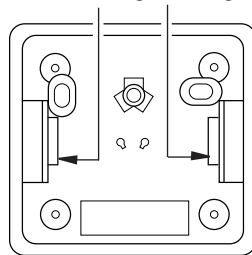

Figure 20 - Back View of Thermostat Base
6. Feed the electrical wires through the rectangular slots on each side of the base (see Figure 20).